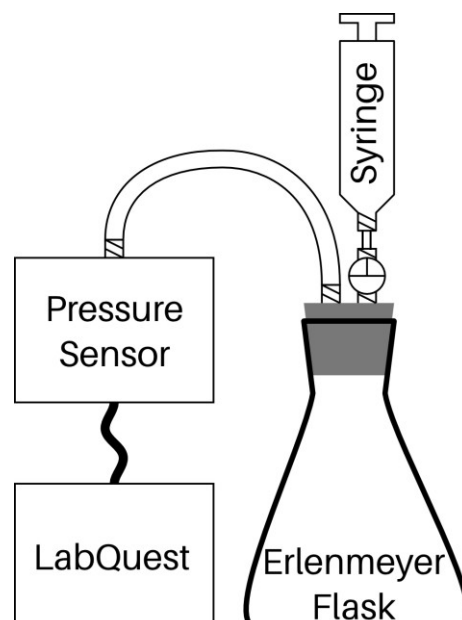

Figure 2- Experimental Setup
2. Monitor pressure changes during a reaction. (Prepare the experimental setup. See Figure 2)